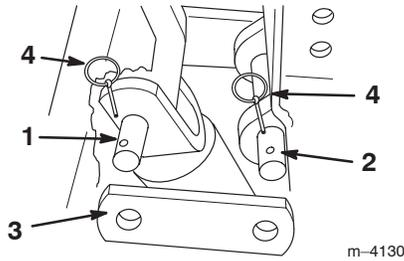
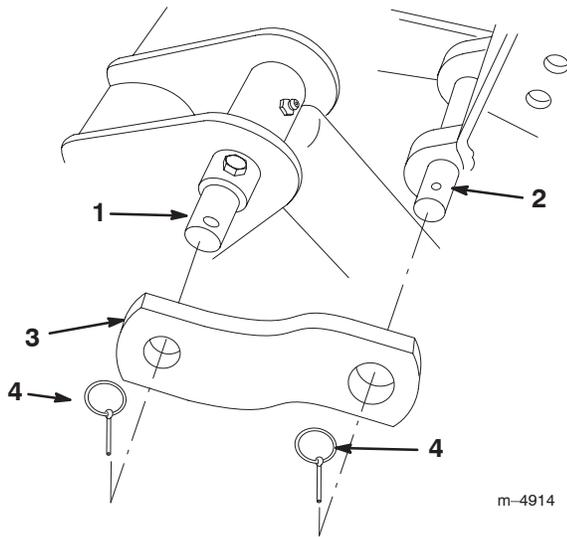

Figure 10
Figure 11
- Slide the two links on each end of the tilt cylinder pin and the backhoe link pin and secure them with two lynch pins (Fig. 10 for 200/300 Series traction units or Fig. 11 for TX traction units).